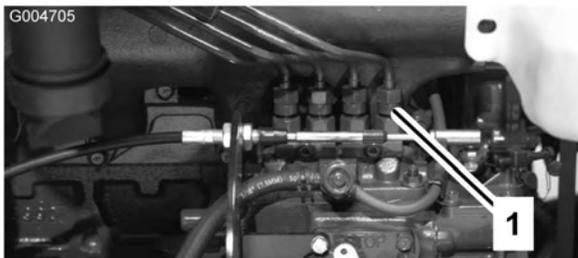

Figure 53
1. Loosen the pipe connection to the Number 1 injector nozzle and holder assembly at the injection pump (Figure 53).